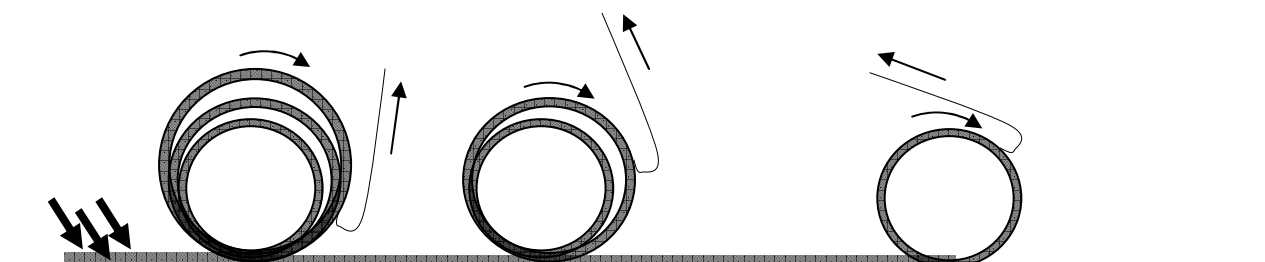

FIG. 6
- 15) AS THE PANEL PROGRESSES DOWN THE ROOF THE PERSON AT THE TOP WILL BE GENTLY APPLYING PRESSURE TO THE CENTRE OF THE PANEL OUTWARD, MAKING SURE THERE IS NO AIR BEING TRAPPED UNDER THE PANEL AS YOU GO. CONTINUE DOING THIS UNTIL YOU HAVE REACHED THE END OF THE PANEL. (FIG.6)